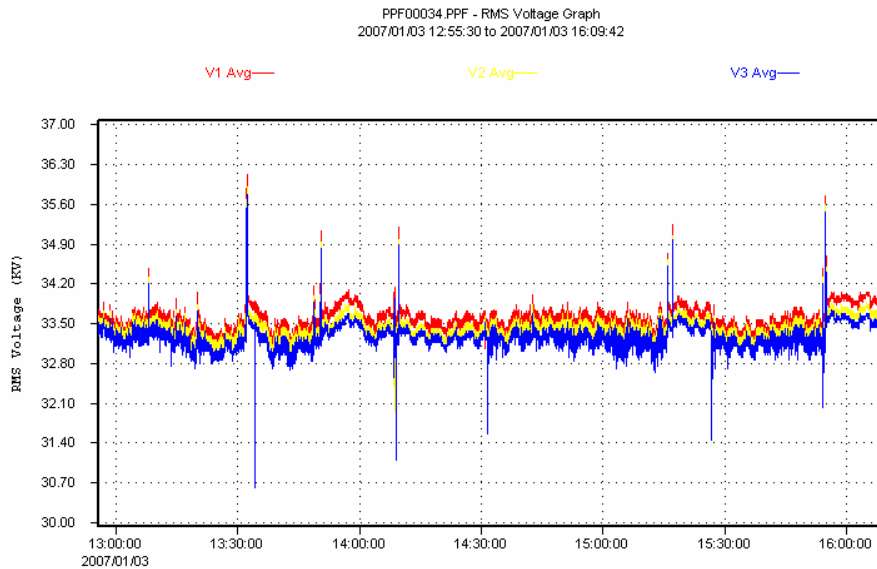

Fig.7.1. RMS Voltage wave forms from 12.55.30 Hrs to 16.09.42Hrs.
The measurements have been carried out on 3rd January 2007 for about three and half hours. The measured parameters such as RMS Voltage, Current, Maximum and Average Total Voltage and Current Harmonic Distortion (THD), frequency, Power (MW), Power factor, Apparent Power (MVA), Reactive Power (MVAR), Various individual Voltage & Current harmonics, Voltage & Current FFT, V & I Wave form, V & I Phasors, PST & PLT Flicker graphs over the measurement period are shown in Figure 7.1 to 7.17. The CT and PT ratios are as given in the table below.